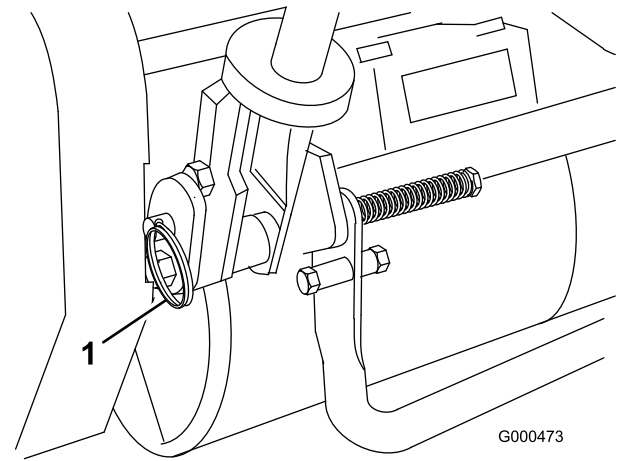

Figure 8
2. While supporting handle, remove ring pins from each side and raise or lower handle to desired operating position (Figure 8).
1. Remove hairpin cotters from ring pins on each side of mower (Figure 8).